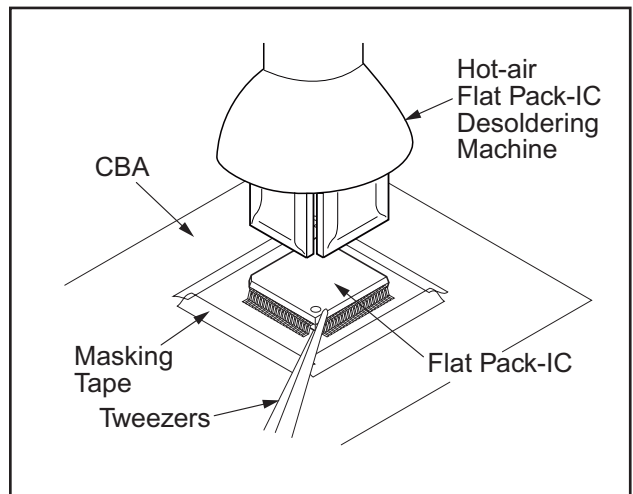

Fig.2-2
- (1) The Flat Pack-IC shape may differ by models. Use an appropriate hot-air flat pack-IC desoldering machine, whose shape matches that of the Flat Pack-IC.
(2) Do not supply hot air to the chip parts around the flat pack-IC for over 6 seconds because damage to the chip parts may occur. Put masking tape around the flat pack-IC to protect other parts from damage. (Fig.2-2)
(3) The flat pack-IC on the PWB is affixed with glue, so be careful not to break or damage the foil of each pin or the solder lands under the IC when removing it.